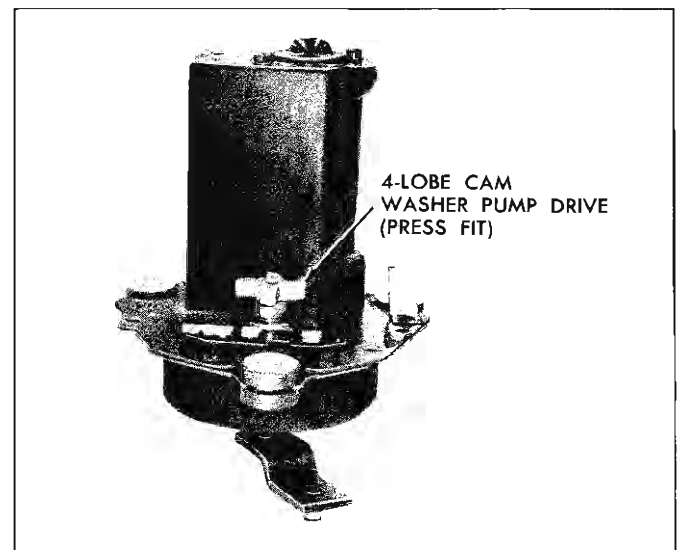

Fig. 52—Washer Pump Drive Cam
2. Remove washer pump drive cam as required (fig. 52). The cam is pressed on the shaft but can be wedged off by using two screw drivers between cam and plate.